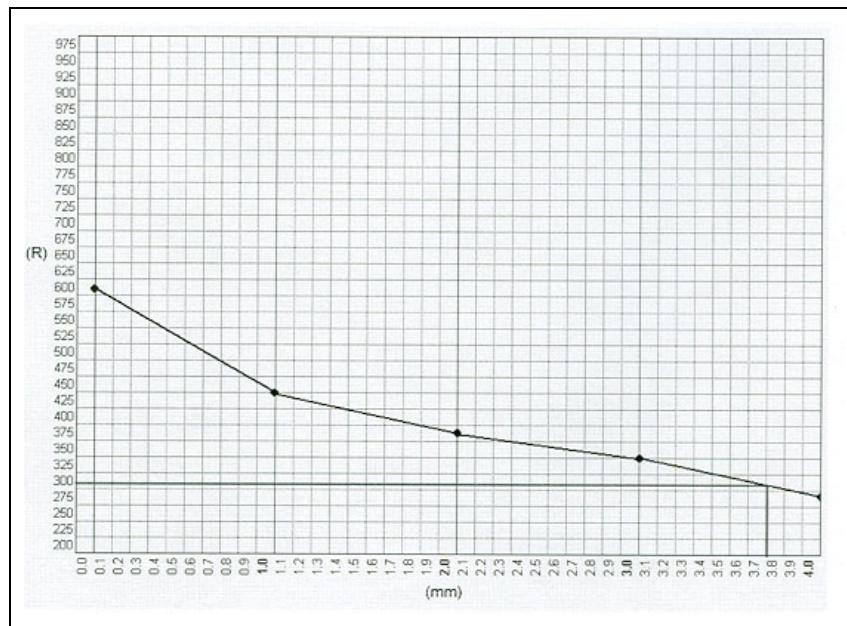

Fig. 5 Plotting the half-value layer
- Draw a vertical line from the point of this intersection to the horizontal axis (see Fig. 5).